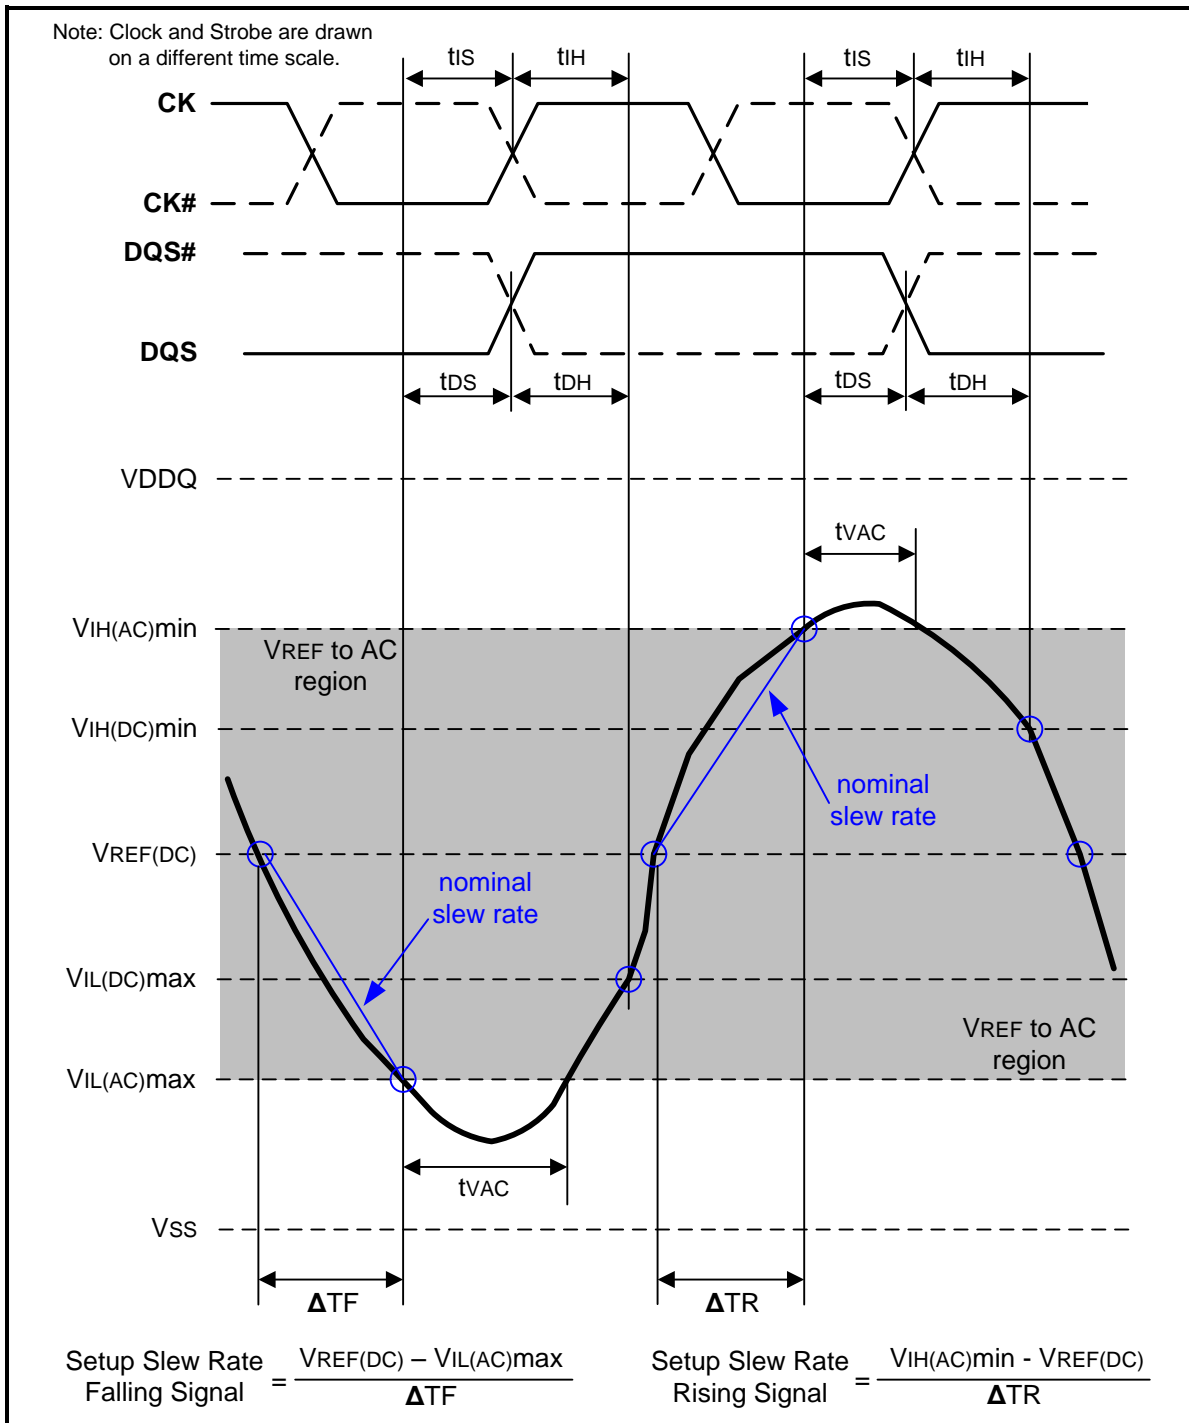
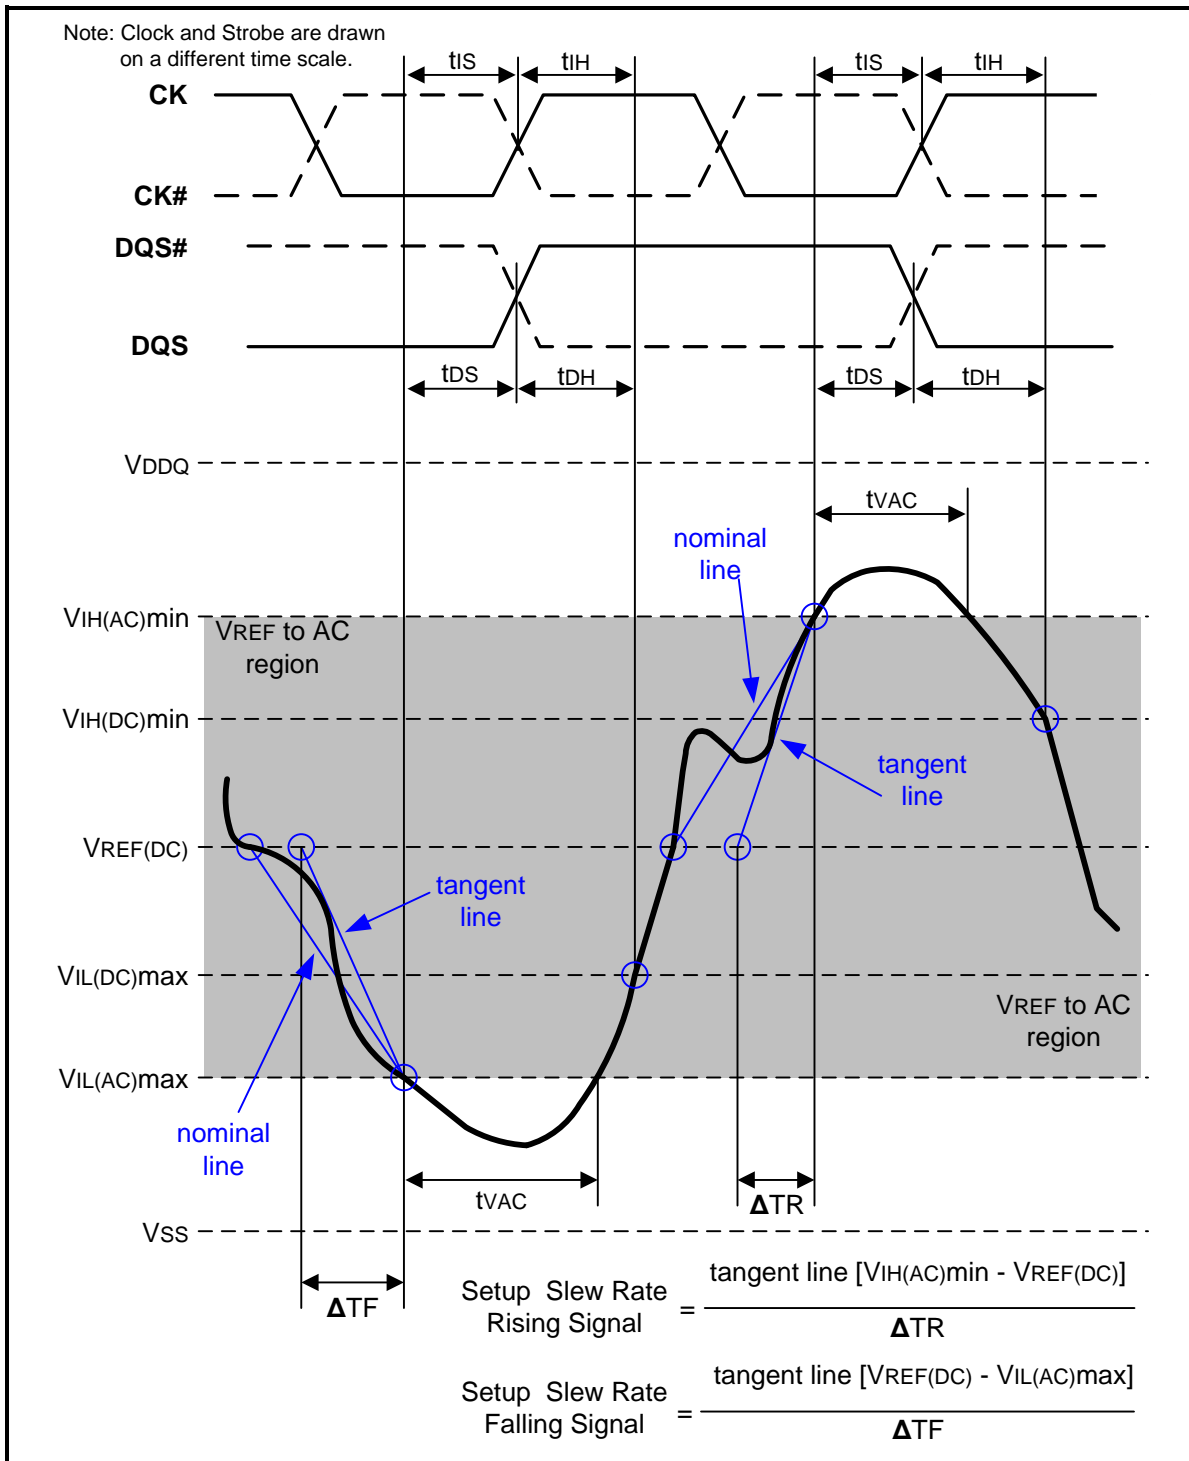

Figure 107 – Illustration of nominal slew rate and tVAC for setup time tDS (for DQ with respect to strobe) and tIS (for ADD/CMD with respect to clock)
Figure 109 – Illustration of tangent line for setup time tDS (for DQ with respect to strobe) and tIS (for ADD/CMD with respect to clock)
Setup ( $t_{IS}$ ) nominal slew rate for a rising signal is defined as the slew rate between the last crossing of  $V_{REF(DC)}$  and the first crossing of  $V_{IH(AC)min}$ . Setup ( $t_{IS}$ ) nominal slew rate for a falling signal is defined as the slew rate between the last crossing of  $V_{REF(DC)}$  and the first crossing of  $V_{IL(AC)max}$ . If the actual signal is always earlier than the nominal slew rate line between shaded 'VREF(DC) to AC region', use nominal slew rate for derating value (see Figure 107). If the actual signal is later than the nominal slew rate line anywhere between shaded 'VREF(DC) to AC region', the slew rate of a tangent line to the actual signal from the AC level to  $V_{REF(DC)}$  level is used for derating value (see Figure 109).
Setup (tDS) nominal slew rate for a rising signal is defined as the slew rate between the last crossing of VREF(DC) and the first crossing of VIH(AC)min. Setup (tDS) nominal slew rate for a falling signal is defined as the slew rate between the last crossing of VREF(DC) and the first crossing of VIL(AC)max (see Figure 107). If the actual signal is always earlier than the nominal slew rate line between shaded 'VREF(DC) to AC region', use nominal slew rate for derating value. If the actual signal is later than the nominal slew rate line anywhere between shaded 'VREF(DC) to AC region', the slew rate of a tangent line to the actual signal from the AC level to VREF(DC) level is used for derating value (see Figure 109).